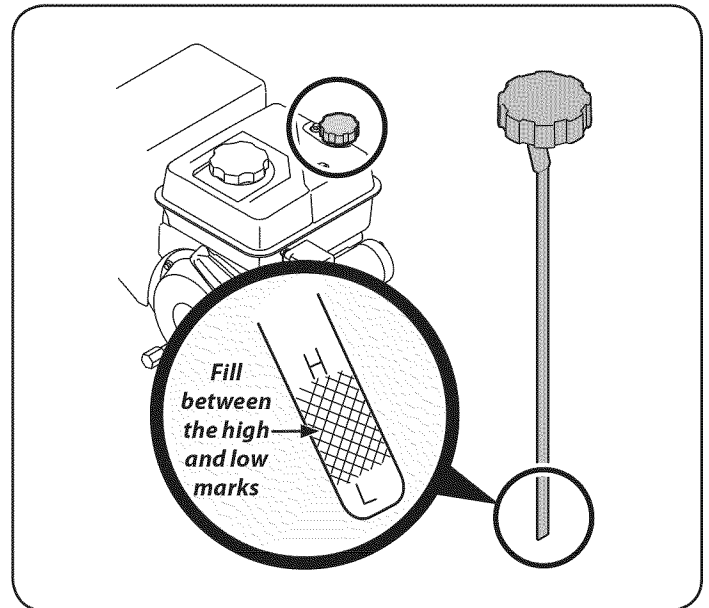

Figure 5
1. Remove the oil filler cap/dipstick and wipe the dipstick clean. See Figure 5.